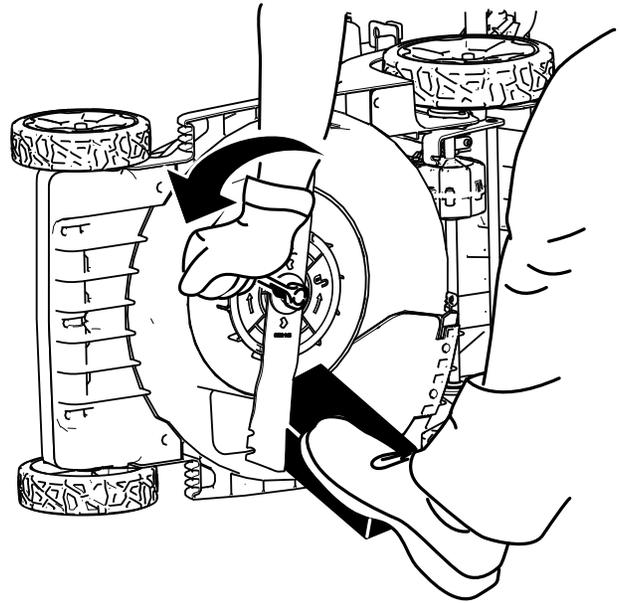

Figure 24
2. Use a block of wood to hold the blade steady (Figure 24).
3. Remove the blade bolt, washer, and blade; save the washer and blade bolt (Figure 24).